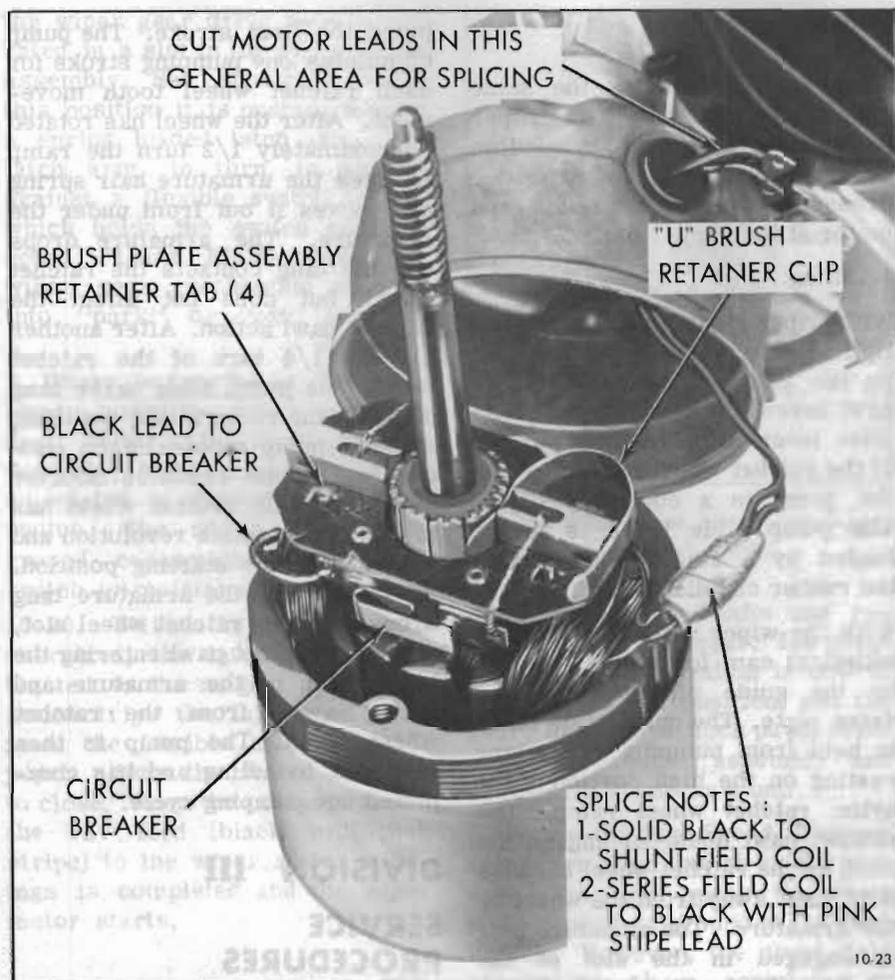

Figure 10-23—Motor Disassembly
4. Unsolder the black lead from circuit breaker. See Figure 10-23.
5. Straighten out the 4 tabs that secure the brush plate to the field coil retainers (see Figure 10-23).
6. Install "U" shaped brush retainer clip over brush holder that has brush lead attached to circuit breaker. See Figure 10-23.
2. The end case and field assembly is serviced as a unit. To free the field and case assembly, cut the solid black and black with pink stripe leads in a location convenient for splicing - preferably near the wiper terminal board. Refer to Figure 10-23.
7. Remove brush retainer clips and resolder circuit breaker ground lead to circuit breaker. Refer to Figure 10-23.